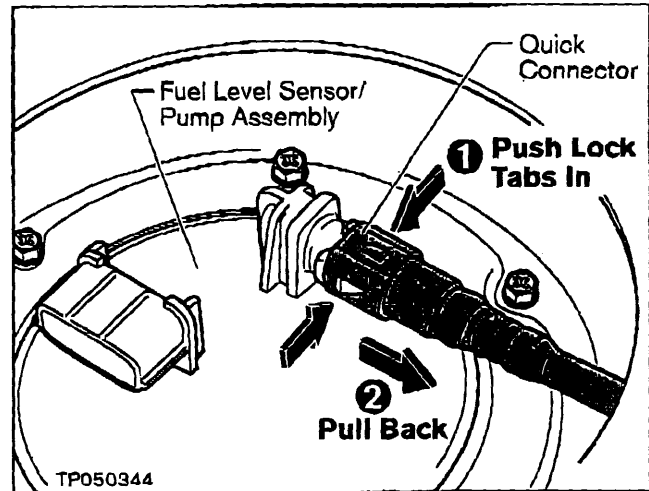

Figure 3
- First, press IN on the two side Lock Tabs (see Figure 3).
- Then, pull BACK on the Quick Connector (see Figure 3).